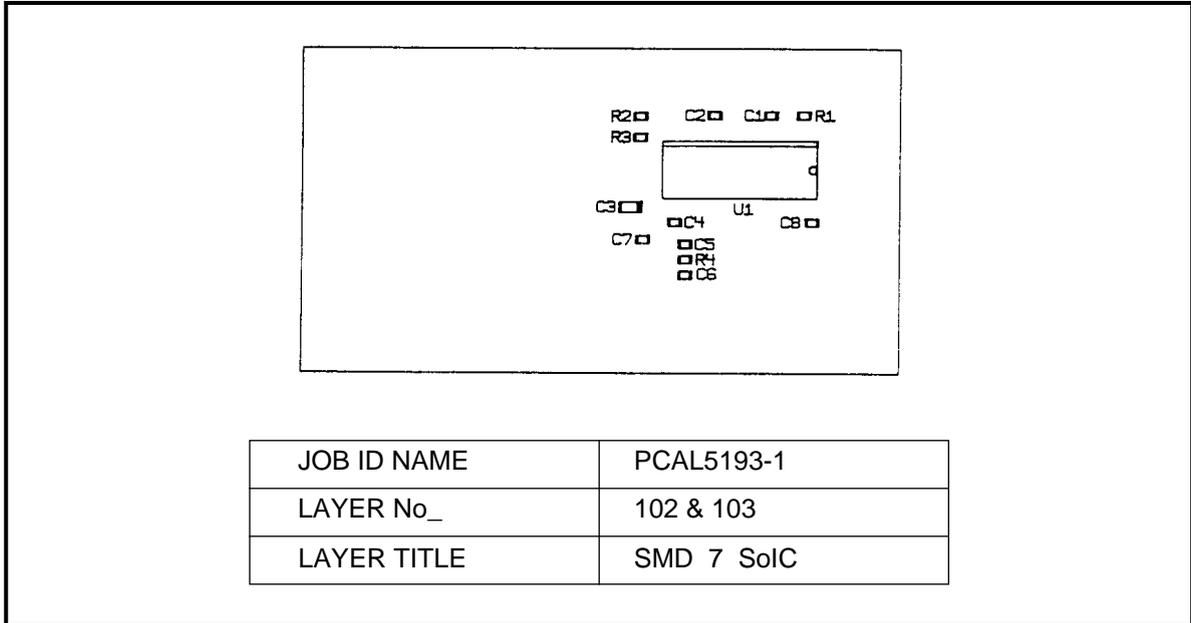

Figure 2 PCB Lay-Out Component Side of the SAA7710T Plug-In Module
- SAA7710T plug-in module, PCB number: PCAL5193-1 (see Figure 1 on Page 11 and Figure 2 on Page 12).